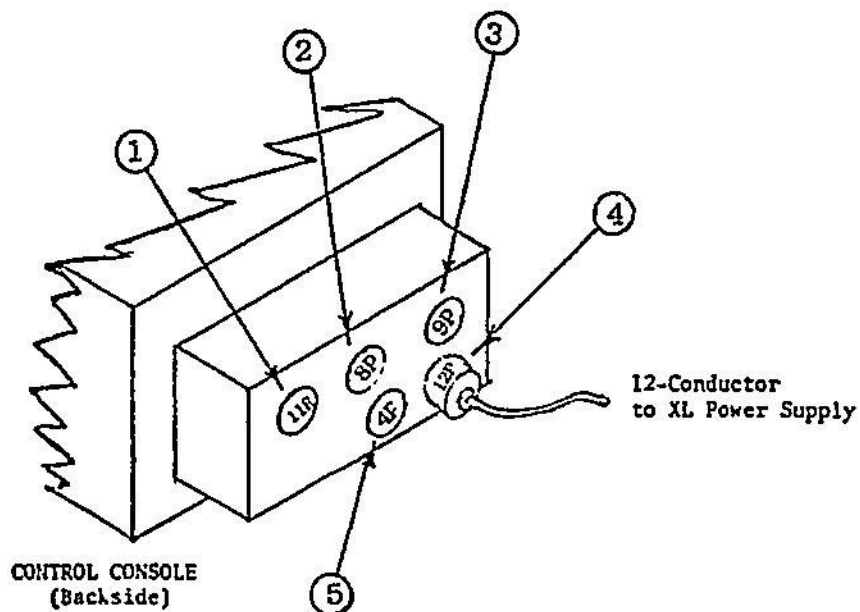

Fig. 1
STEP 1 - Unplug all cables from back of the CONTROL CONSOLE, leaving only the 12 conductor cable in place (socket #4). (Fig. 1)